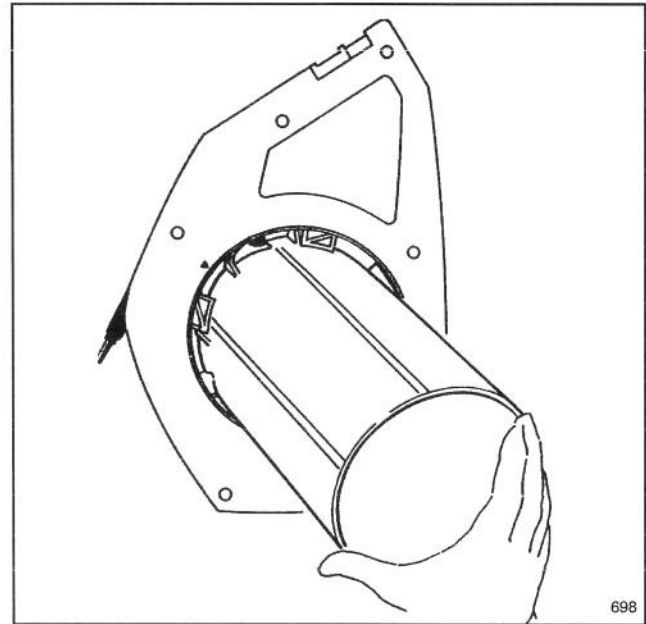

Figure 11
2. Grasp the upper vacuum tube firmly (Fig. 11).